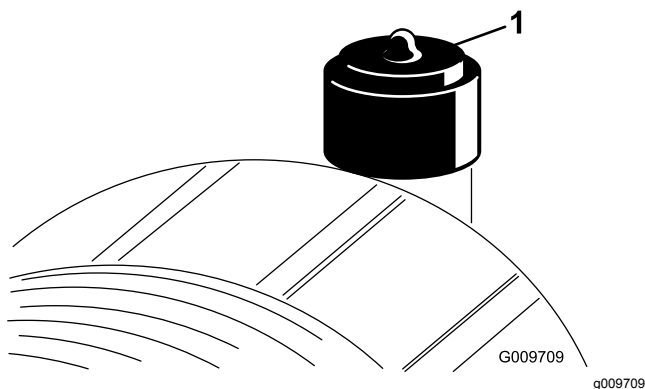

Figure 32
Service the air-cleaner filter only when the service indicator (Figure 32) requires it. Changing the air filter before it is necessary only increases the chance of dirt entering the engine when the filter is removed.
8. Reset the indicator (Figure 32) if it shows red.